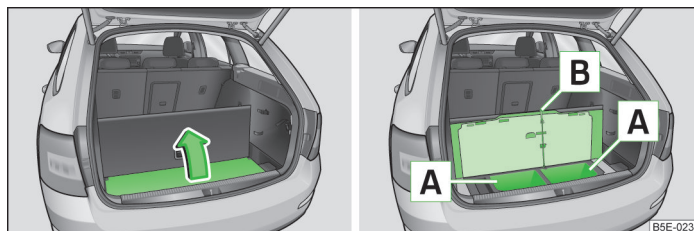

Fig. 93 Lift floor covering/storage compartments under the floor covering
- Remove the floor covering in the direction of the arrow » Fig. 93.